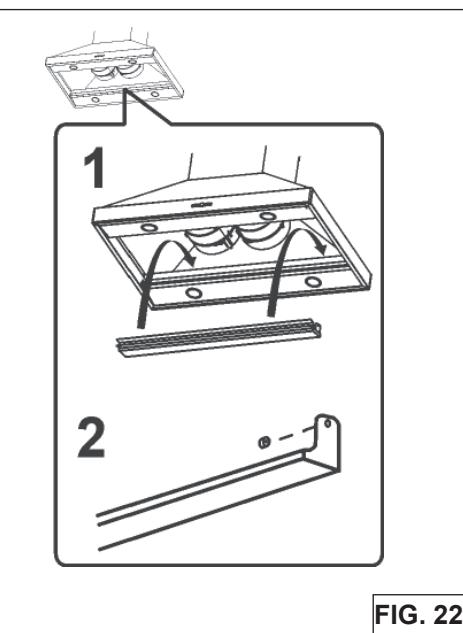

FIG. 22
2. To install the DRIP TRAY (Fig.22), lift it up and into the track on the hood. Install thumbscrews and baffle grease filters.